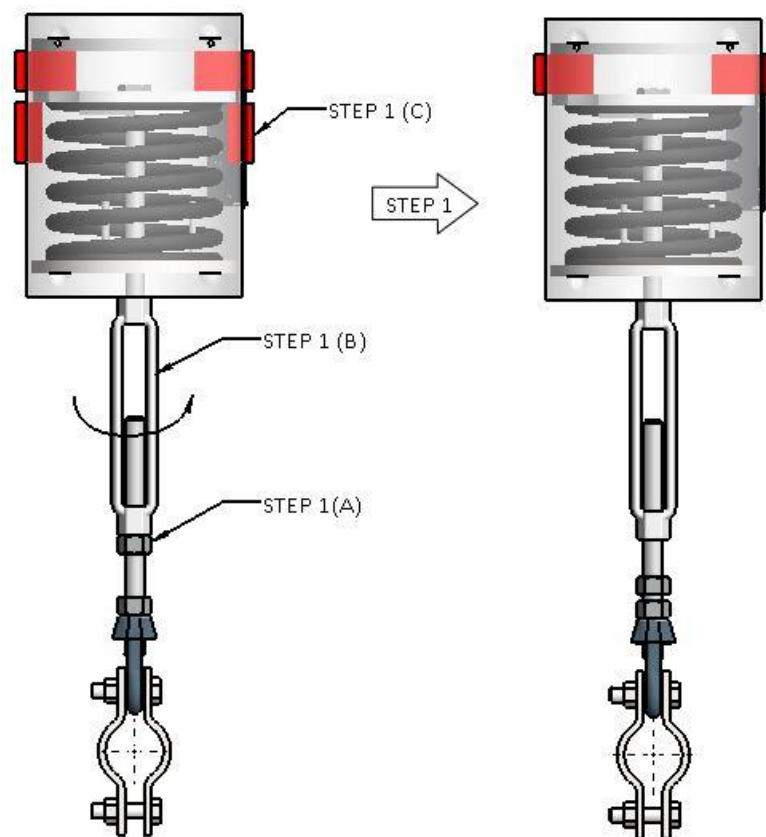

Figure 5.1 – View of a typical assembly with Pre-Set and Hydro Stops installed.
-)] For Type A, B or C supports, rotate the turnbuckle in a Left to Right direction, as shown in Figure 5.1, Step 1 (B).